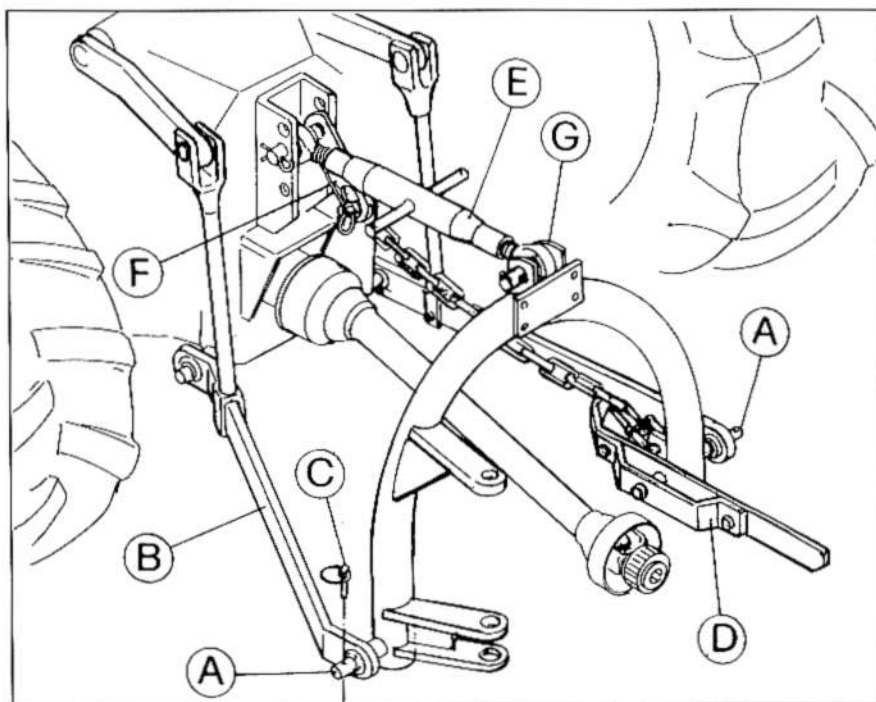
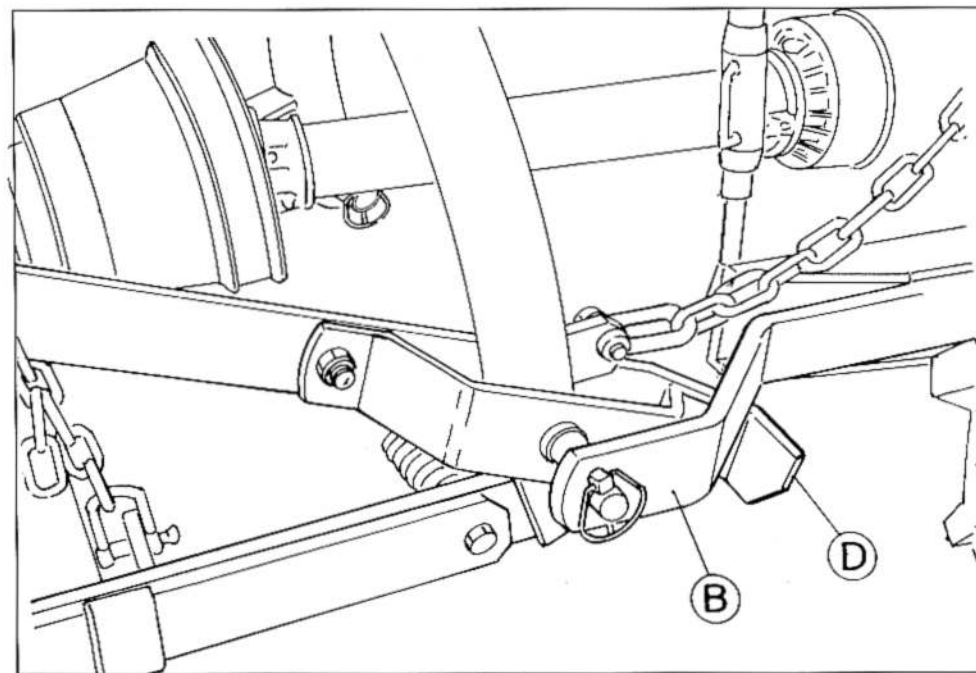

FIG. 4.1
FIG. 4.2
- 1) Make sure that pins "A" (refer to Figure 4.1) of three point hitch are well cleaned and greased. Connect upper part of three point hitch linkage "G" to adjustment tierod "E". Connecting plate "F" must be placed on righthand side of adjustment tierod "E" and fastened with same pin. Connect tractor link arms "B". Lifting bracket "D", see Figure 4.2, must be positioned under arm "B" of tractor and blocked with pins "C" as in Figure 4.1.